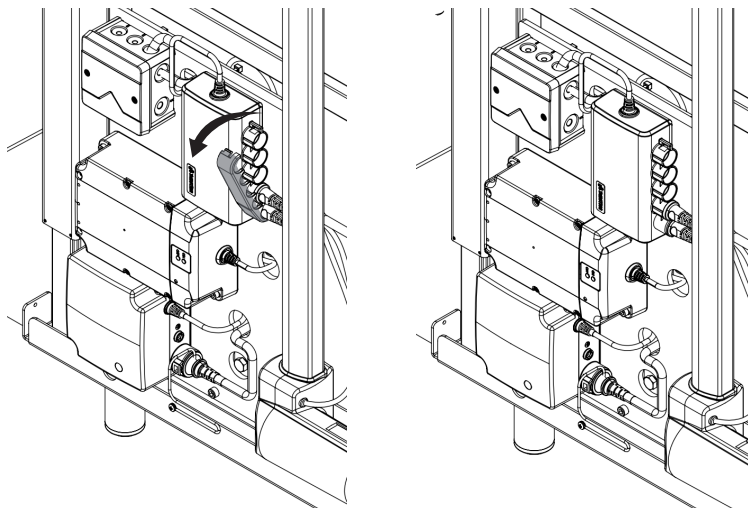

Fig 12.4a
- To remove the handset cable, the control box connector lock will need to be removed first. This may be released from the top and rotated to unhook from the bottom, Fig 12.4a.
- Ensure the cable from the cover is routed behind the actuator and plugged in fully. The connector lock should now be refitted in the same way it was removed (Fig 12.4a) . This ensures the cables are held in place and cannot pull free.